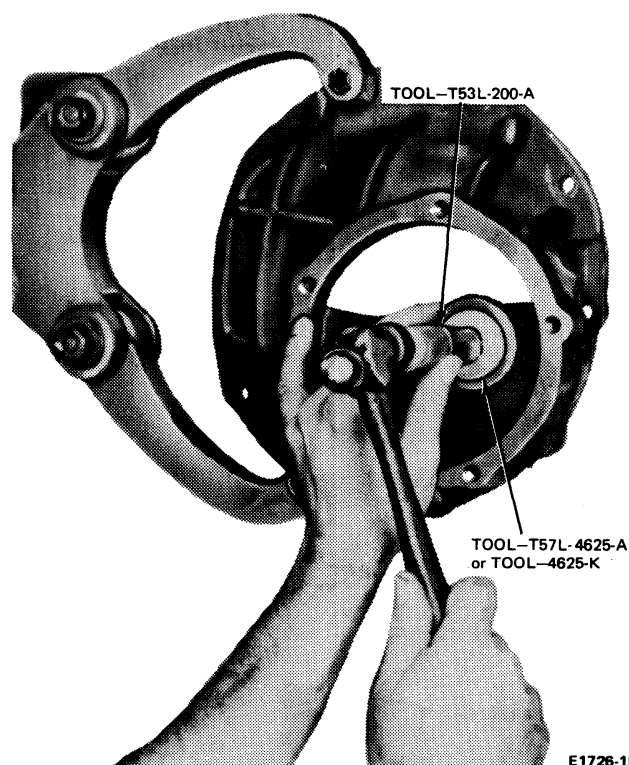

FIG. 27 Installing Pilot Bearing
2. Drive the new bearing in until it bottoms as shown in Fig. 27.